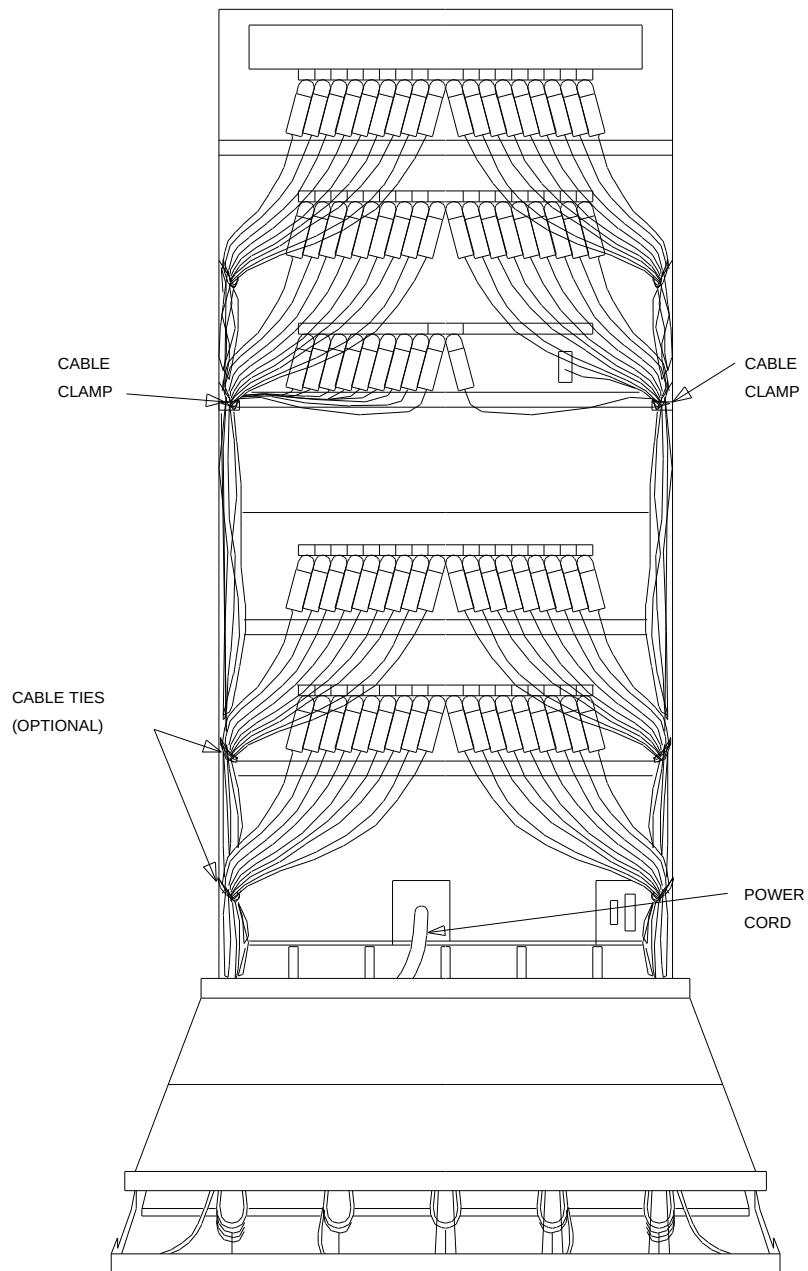

Figure 9-49. Typical Port Cable Installation at Switch Cabinet
- Enough slack must be left at the cabinet end of the cable to allow for proper dressing of the cables (Figure 9-49).